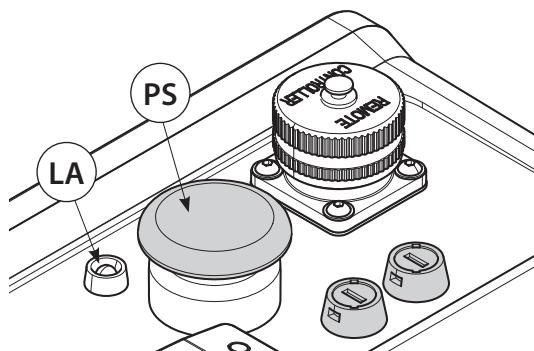

FIG. 3
- Operate push button (GREEN) on the remote hand controller (PC) to activate the motor and to pump oil to the hydraulic head.
- *If required, by pressing the mechanical pressure release button (PS) (see Fig.3) on the pump, the oil will return to the reservoir independent of the status of the external power supply.*
The pump is equipped with a self-diagnostic system; the condition of yellow LED (LA) (Fig 3) indicates malfunction *with subsequent interruption to pumping*.